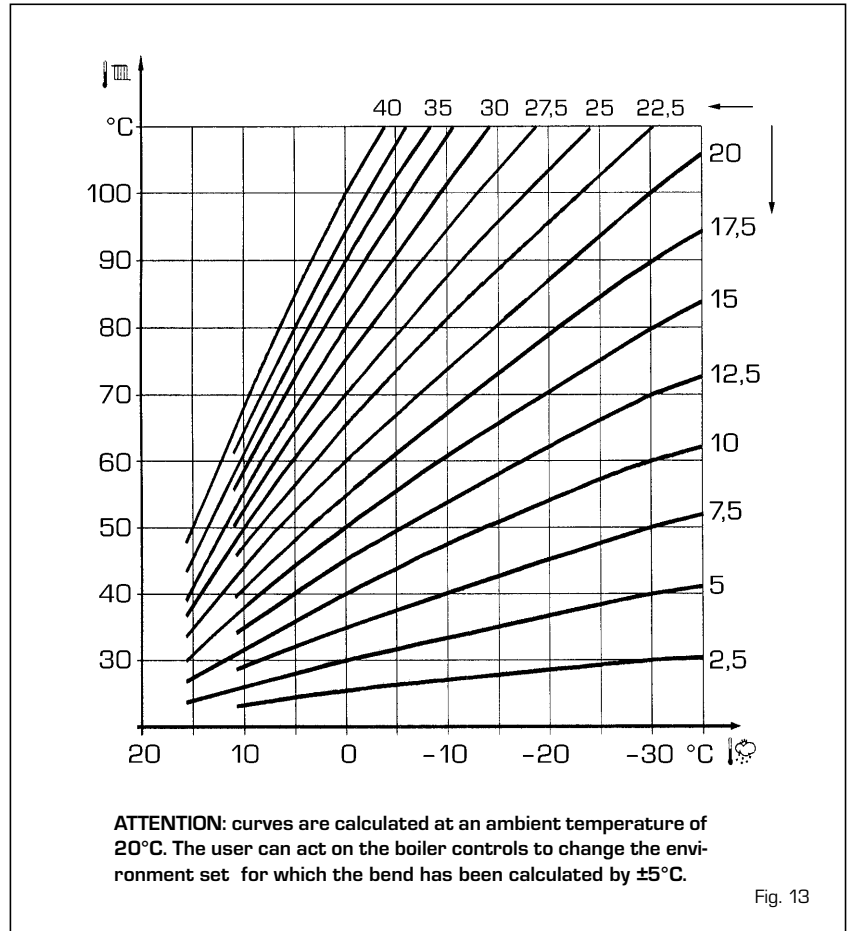

Fig. 13
3.4 EXTERNAL SENSOR (fig. 13)
The climatic curve to be set can be selected from a value of 3 and 40 (at step 1). Increasing the steepness of the curves of fig. 13 will increase the output temperature as the external temperature decreases.